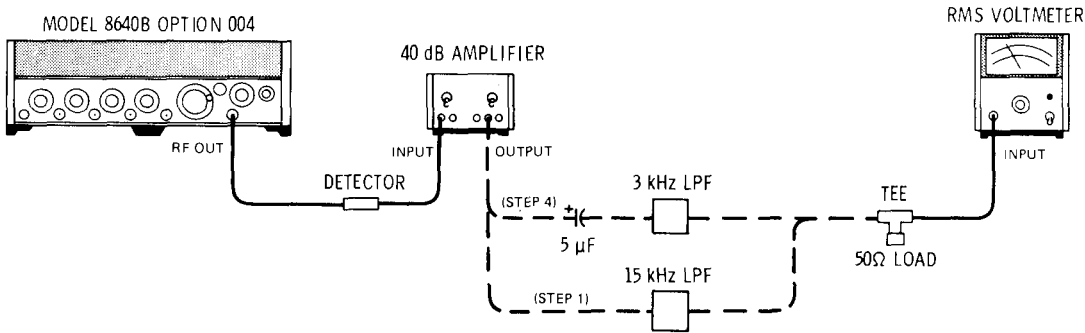

Figure 4-8. Residual AM Test Setup
1. Connect equipment as shown in Figure 4-8 (with the generator connected to the rms voltmeter through the detector, amplifier, 15 kHz LPF, and across the 50 ohm load). Set Signal Generator’s controls as follows: